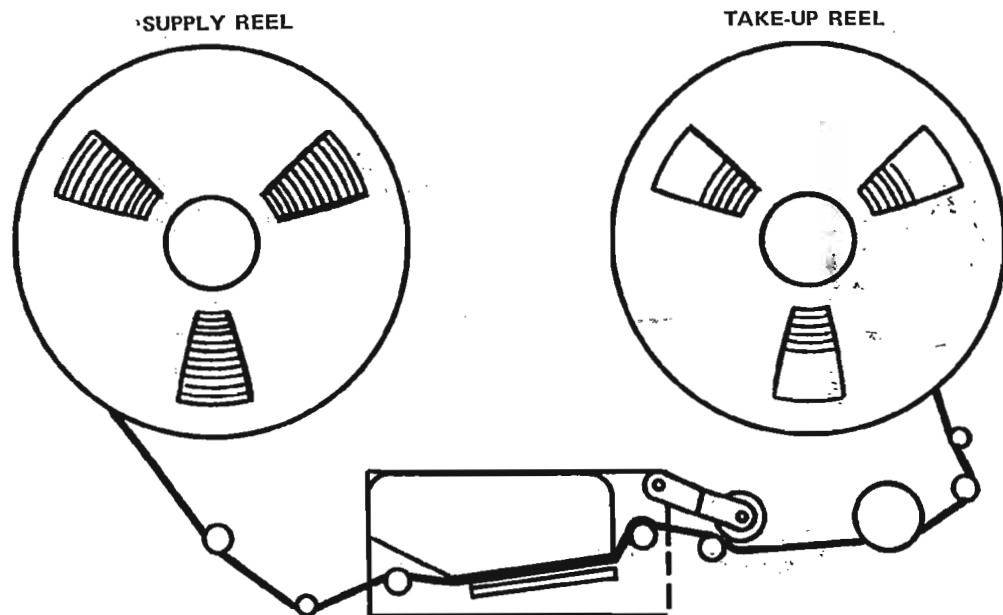

Figure 9. Tape Threading Path
4. Thread a bulk-erased reel of tape onto the transport as shown in Figure 9, and close the head gate.
4. Thread the master tape onto the transport as shown in Figure 9 and close the head gate.
3. Thread the tape to be reproduced onto the transport as shown in Figure 9, and close the head gate.